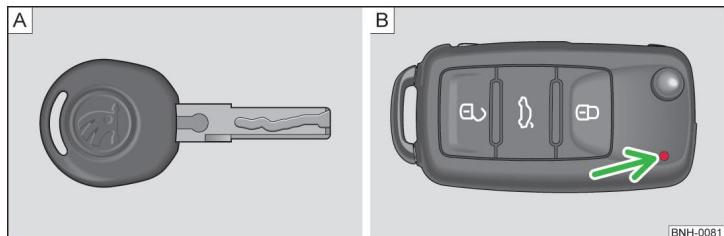
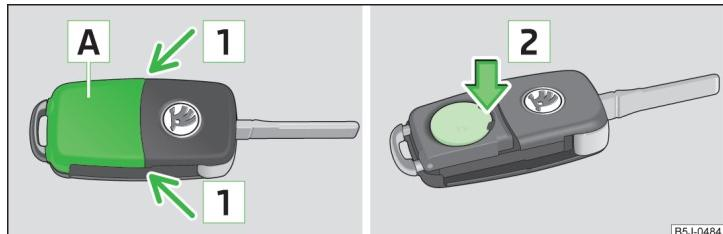

Fig. 25 Key: without/with remote control
Fig. 26 Remote control key: Remove cover/remove battery
Two keys are provided with the vehicle. Depending on the equipment, your vehicle can be equipped with keys without radio remote control » Fig. 25 - A or with radio remote control » Fig. 25 - B.
A » Fig. 26. The battery needs replacing if red indicator light » Fig. 25 on page 42 - **B** does not go on when you press a button on the remote control key. We recommend having key battery replaced by a specialist garage. However, if you would like to replace the discharged battery yourself proceed as follows.
- Press off the battery cover with your thumb or using a flat screwdriver in the region of arrows **1** » Fig. 26.